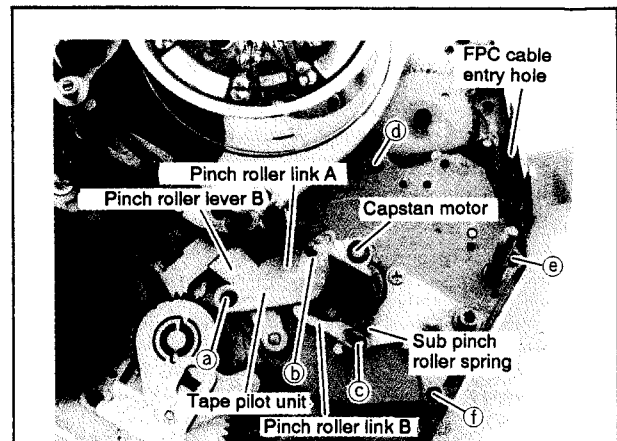
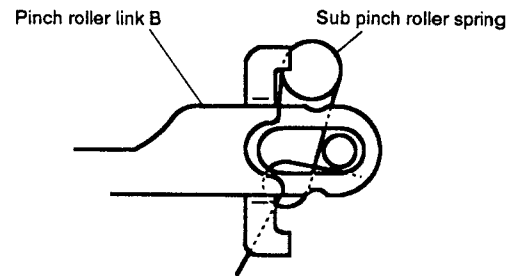

Fig. 3-14-1
Fig. 3-14-2
- ① Pass the FPC cable of the capstan motor through the FPC entry hole in the main plate (Fig. 3-14-1) and under the pinch roller lever B; and then mount the capstan motor on the main plate.
- ② Secure the capstan motor with screws ④, ⑤ and ⑥.
- ③ Attach the sink belt.
- ④ While slightly lifting up the pinch roller lever B, insert the pin of the pinch roller link A into the hole of the pinch roller lever B. Mount the pinch roller links A and B.
- ⑤ Referring to Fig. 3-14-2, attach the sub pinch roller spring to the pinch roller link B. Secure the link B with the washer ③ shown in Fig. 3-14-1.
- ⑥ Secure the tape pilot unit with screws ① and ②. Tighten screw ① first.
- ⑦ Attach the takeup guide arm.
- ⑧ Attach the lock arm spring and lock lever T-B.
- ⑨ Attach all the components described in para. 4-11 (Slant T replacement).
- ⑩ Attach all the components described in para. 4-10-1 (Pinch roller assembly replacement).
- ⑪ Mount the A/C head assembly.
- ⑫ Attach all the components described in para. 4-6 (Reel gear replacement).
- ⑬ Mount the cassette housing.